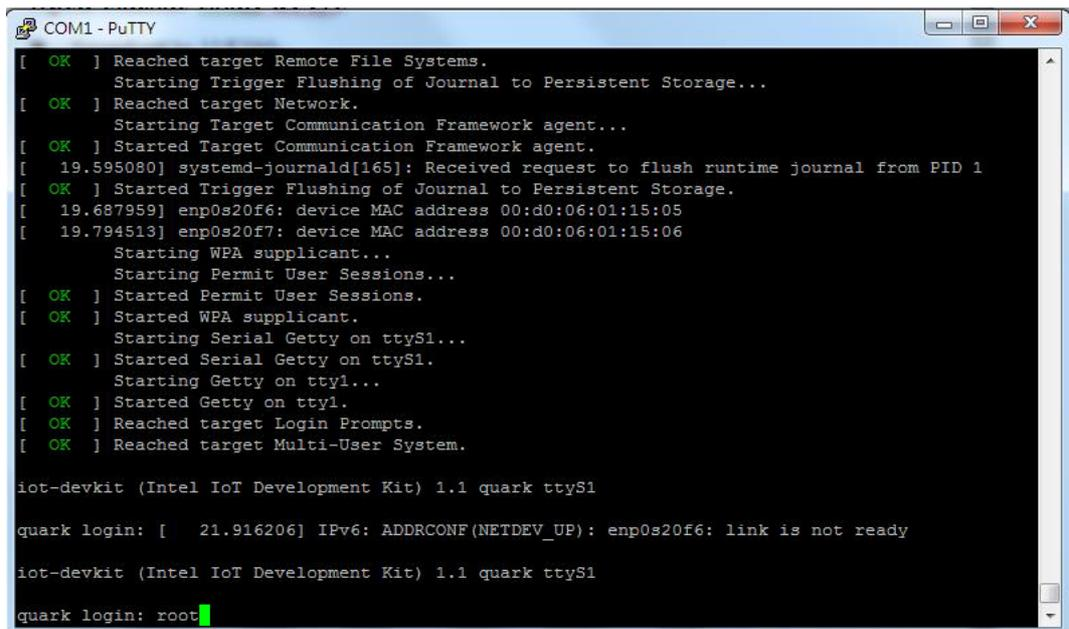

Figure 4.2 Log in to UNO-1252G
3. Power on UNO-1252G. Boot will take a while, after which the login screen appears. Log in with: root as shown in Figure 4.2.